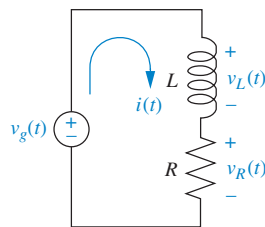

FIGURE I-5.9 Solenoid coil circuit
15. Problem I-3 in Chapter 1 describes a high-speed proportional solenoid valve. A subsystem of the valve is the solenoid coil shown in Figure I-5.9. Current through the coil,  $L$ , generates a magnetic field that produces a force to operate the valve. Figure I-5.9 can be represented as a block diagram (Vaughan, 1996).
- Solve the circuit of Figure I-5.9 for  $I(s)$ , and compare to your result in Part b.